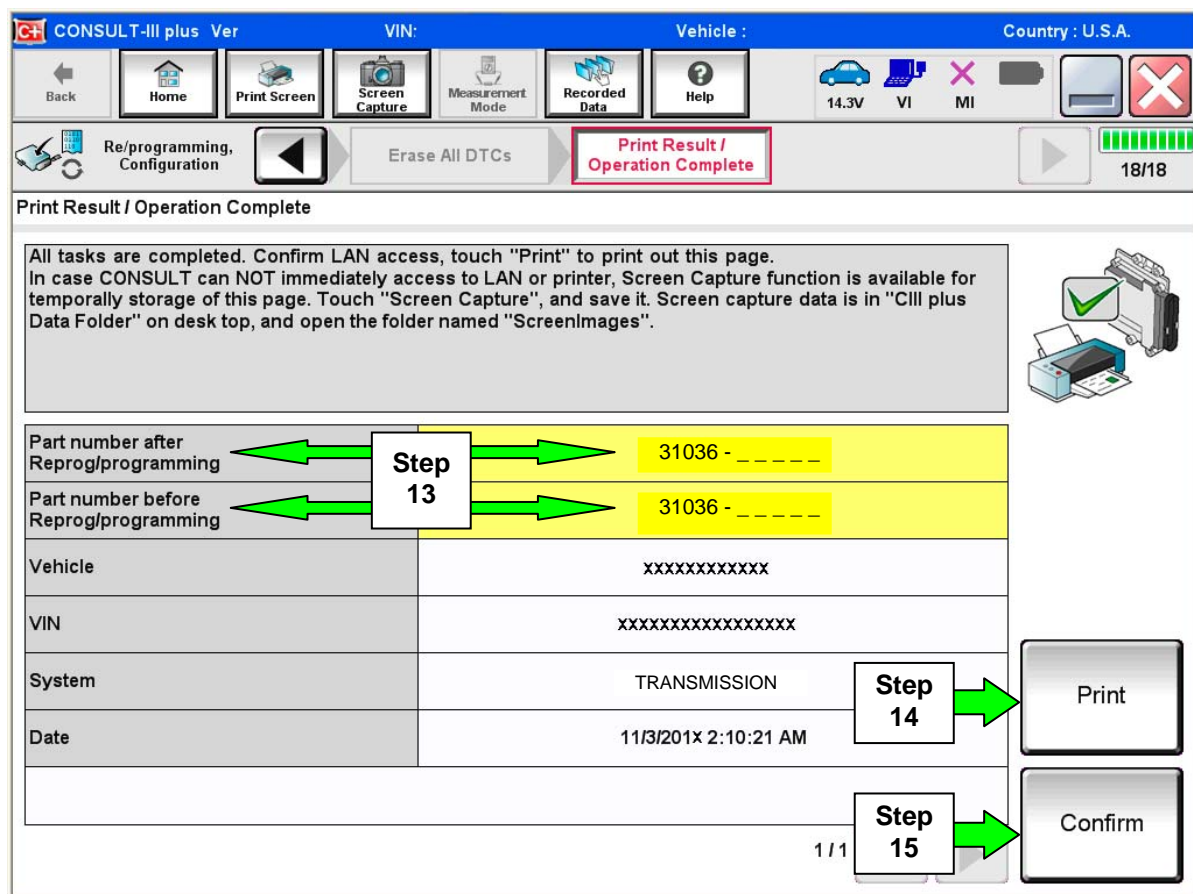

Figure 19
12. When the entire reprogramming process is complete, the screen in Figure 19 will display.
14. Print a copy of this screen (Figure 19) and attach it to the repair order for warranty documentation.